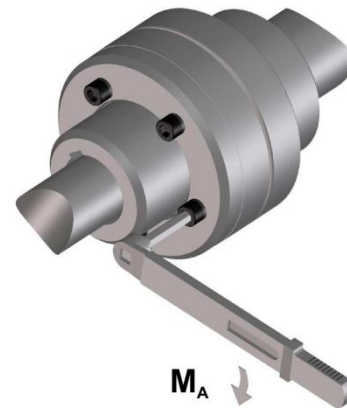

Fig. 15
- Before initial operation, please check the screw tightening torques M_A acc. Table 8 (Fig. 15).
- Tighten the screws to the tightening torques M_A stated in Table 8 (Fig. 15).